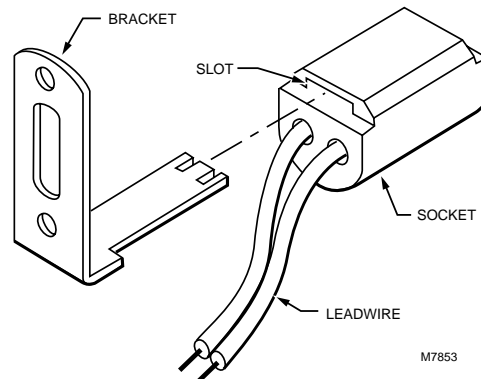

Fig. 3. Insert mounting bracket into socket slot.
- ❶ Select the mounting bracket that most closely matches the existing mounting bracket (SUPER TRADELINE®) or use the bracket provided (TRADELINE®).
- ❷ Remove the cell from the socket.
- ❸ Insert the mounting bracket into the socket slot (Fig. 3) as far as it will go.
- ❹ While holding the mounting bracket in the slot, insert the screwdriver in the other end of the slot (Fig. 3). Bend the screwdriver, first to the left and then to the right, to crimp the end of the mounting bracket and hold it in position.
- ❺ Remove the screwdriver and replace the cell.
- ❻ Mount the new cell and bracket assembly in the location of the old assembly.